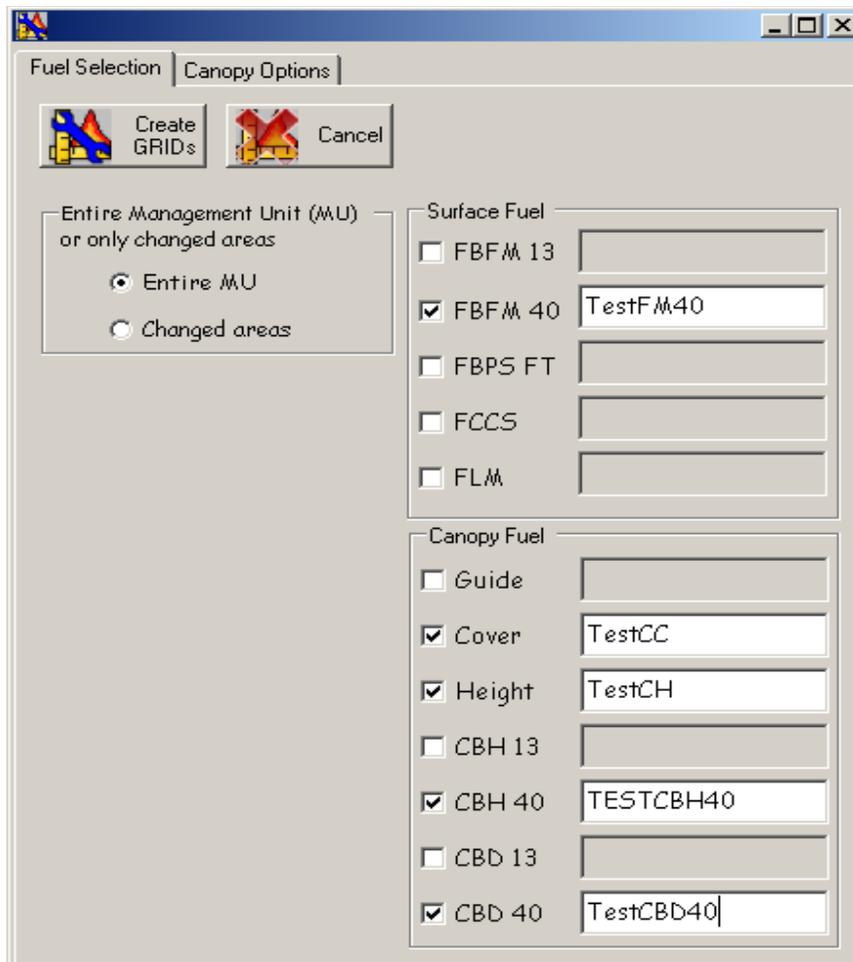

Figure 6-19. Complete the **Fuel Selection** tab and click **Create GRIDs** when done.
The following dialog box will open with the **Fuel Selection** tab visible as shown in Figure 6-19.
Note: After the boxes are selected with a check mark, the associated box for naming the layer is enabled (fig. 6-19).
- Select **FUEL GRIDs** on the drop-down menu to open a dialog box (fig. 6-19).
- After you have completed the **Canopy Options** tab, return to the **Fuel Selection** tab (fig. 6-19).